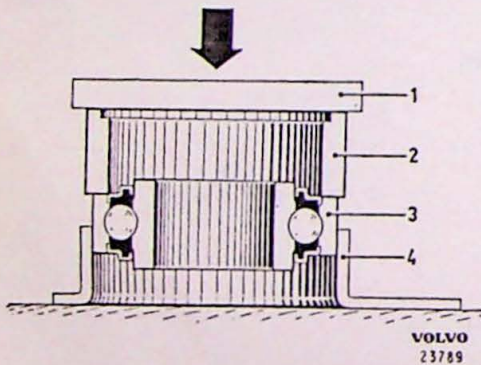

Fig. 4-3. Fitting the center bearing
2. Pull out the retainer with the center bearing (7) to the rear. Press the center bearing out of the retainer with a suitable tool. Press the new bearing into the retainer with the help of ring SVO 4081, see Fig. 4-3. If the diameter of the press tool is less than the hole in the ring, lay a plate (1, Fig. 4-3) over the ring.
1. Press the center bearing (7) in the retainer by using the ring SVO 4081, see Fig. 4-3. Fit the cover plate, center bearing, thrust washer and lock washer on the forward part of the propeller shaft.